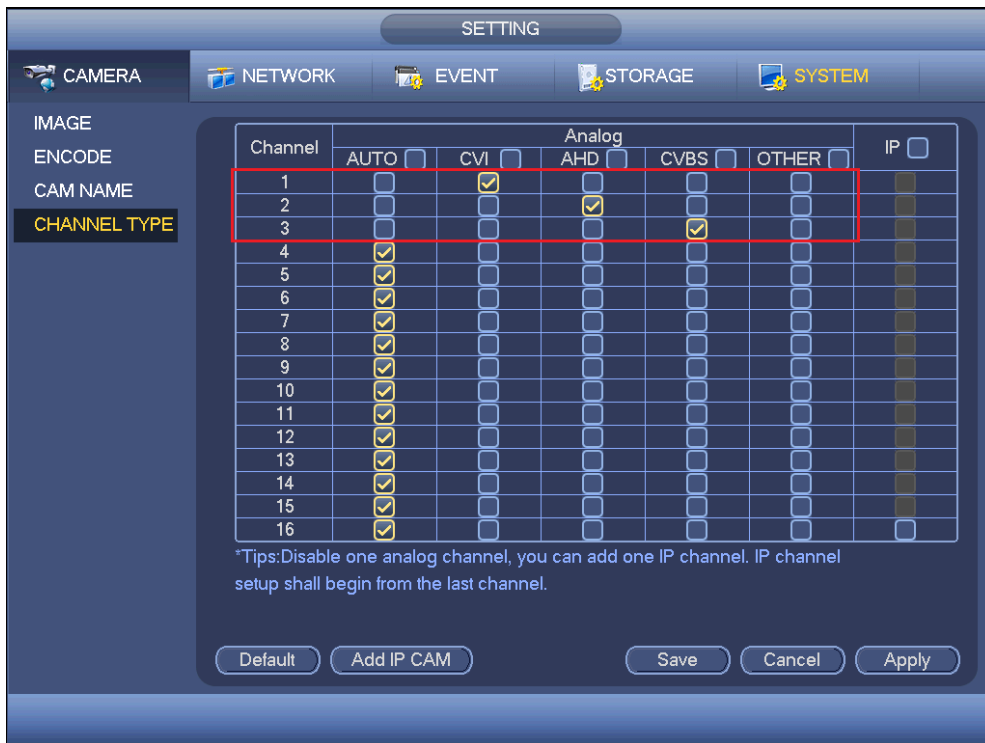

Figure 4-110
- If the auto recognition error occurred, penta-brid series product supports manual setup too. The manual setup featuring high recognition speed and usually there is no error. For example, in Figure 4-110, you can set channel 1 to connect to CVI camera, channel 2 to connect to AHD camera, channel 3 to connect to CVBS camera.